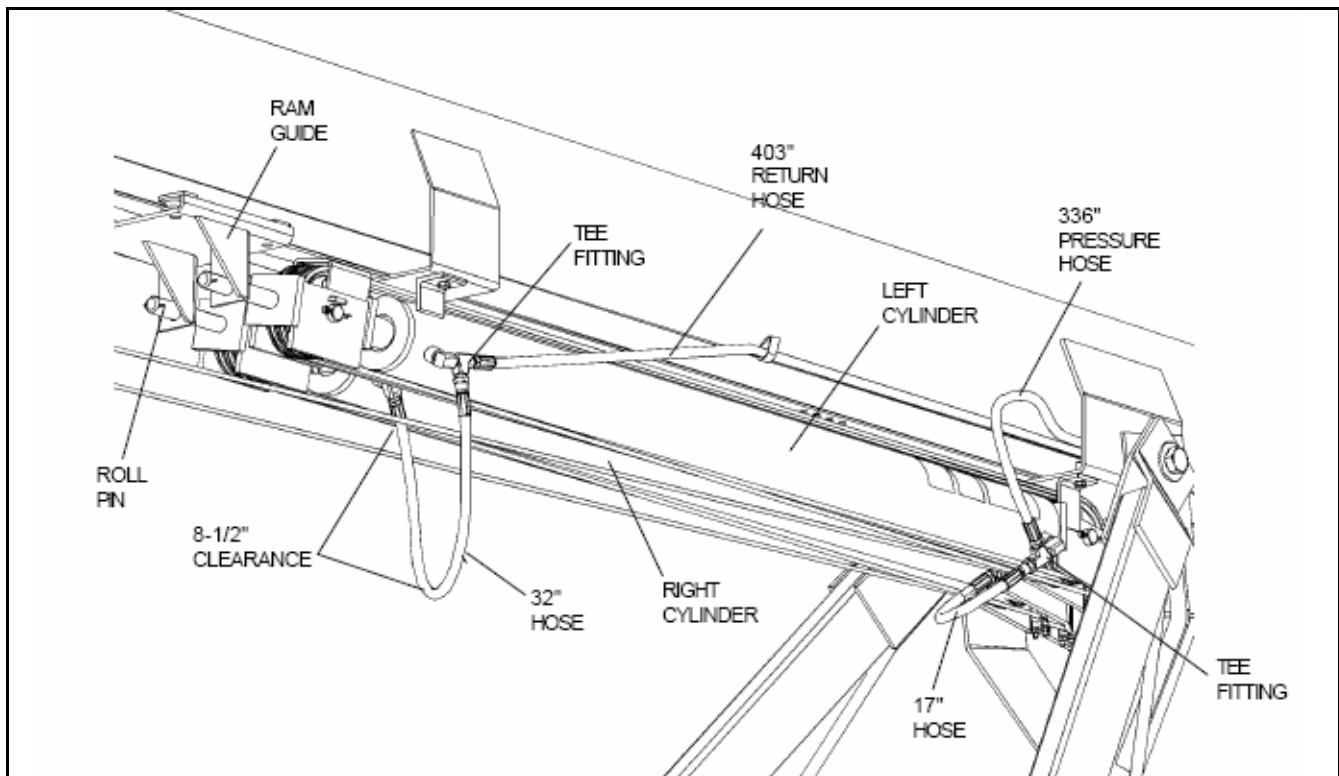

**Figure 3.23**
1. Slide ram guide onto track (Figure 3.23).